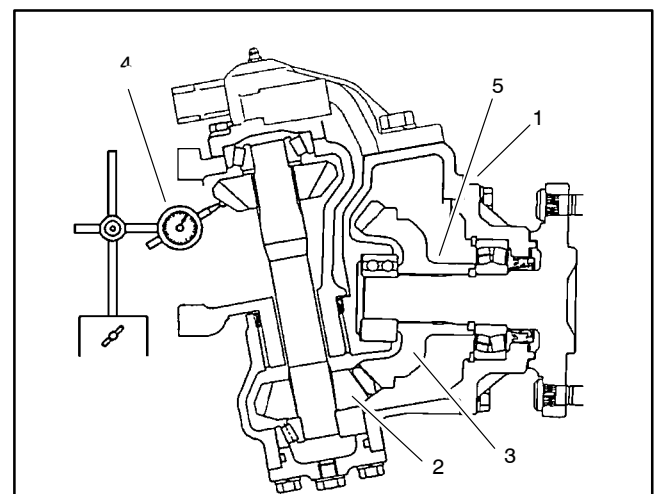

Figure 12
9. Remove the bevel gear case/axle case assembly from the axle support. Coat a new O-ring with grease and temporarily install the axle cover assembly. Position a dial indicator at the tooth's center. Prevent the axle from turning and measure the lower bevel gear to axle gear backlash (Fig. 12).